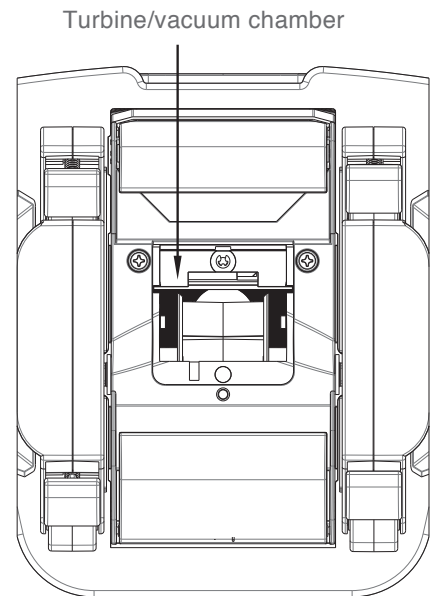

Fig. 19
7. Clean turbine/vacuum chamber (see Fig. 19).